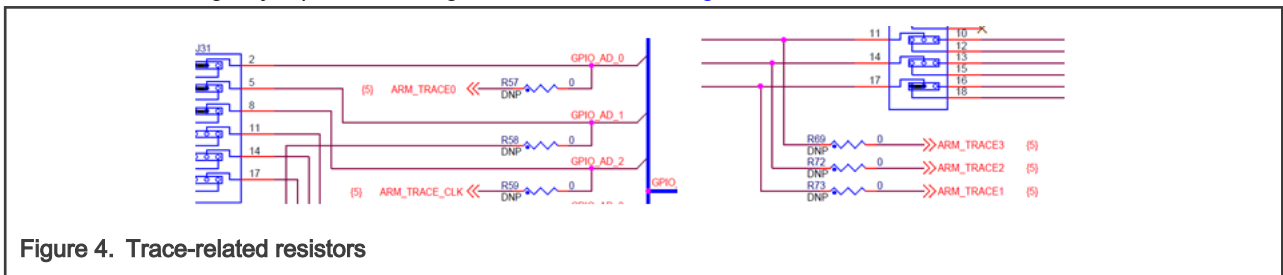

Figure 4. Trace-related resistors
- Weld trace-related resistors, TRACE_CLK (R59), TRACE0 (R57), TRACE1 (R73), TRACE2 (R72), and TRACE3 (R69). Disconnect other signal jumpers on the signal line, as shown in Figure 4.